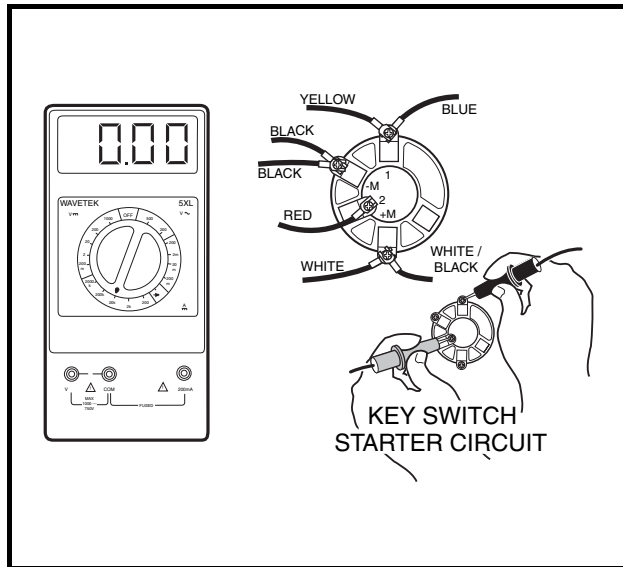

Figure 11-7 Test Key Switch – Engine Starter Circuit
4. Insert the key and turn the switch to ON. Place the red (+) probe of the multimeter on the No. 2 terminal and the black (–) probe on the No. 1 terminal of the key switch. The reading should be continuity. If the reading is incorrect, replace the key switch (**Figure 11-7, Page 11-13**).